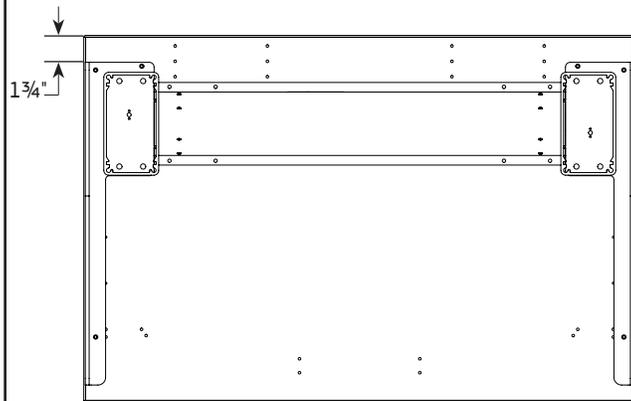
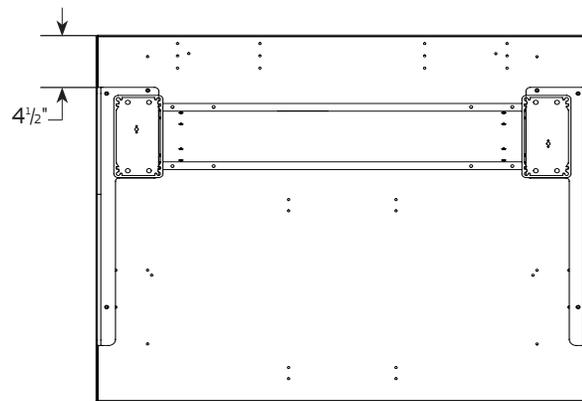

Figure 5: Table Base, 24-26" D Work Surface
Figure 6: Table Base, 27-42" D Work Surface
- 2c. The back edge of the Table Base should be 1¾" (Figure 5) or 4½" (Figure 6) from the back edge of work surface. Properly align the Table Base support brackets, left and right, over the predrilled holes of the work surface.
4. Position control box in desired location and fasten with (3) #10-12x¾" pan head screws. Note: Surfaces do not have predrilled holes for the control box.